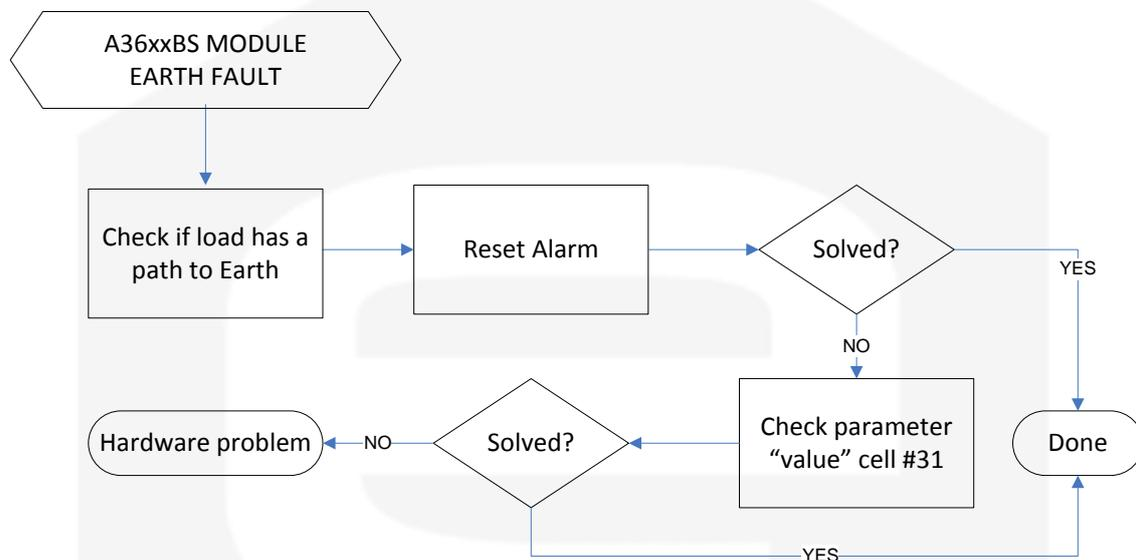

**Figure 3:** A3636 auxiliary power supply earth fuse
**WARNING:** removing the first A36xxBS module installed in the SY3634 crate, next to the A3636 auxiliary power converter, can cause a shock hazard. Switch OFF the general mains before extracting the board from the crate. Replace the 1AT fuse present in the inner-side of the board, as shown in Figure 3.